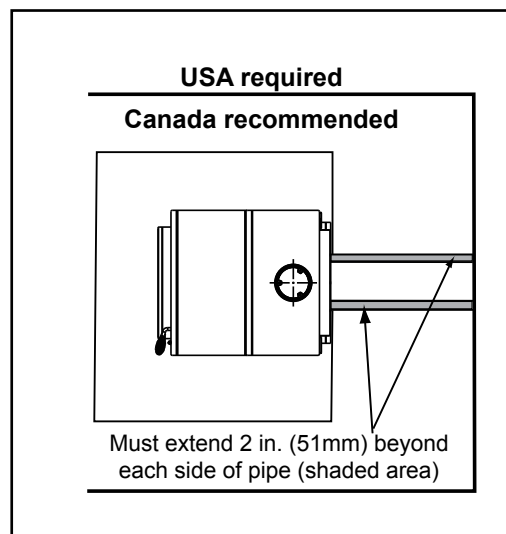

Figure 31.4
**\*EXCEPTION:** Non-combustible floor protections must extend beneath the flue pipe when installed with horizontal venting and extend 2 inches (51mm) beyond each side. **See Figure 31.4.**